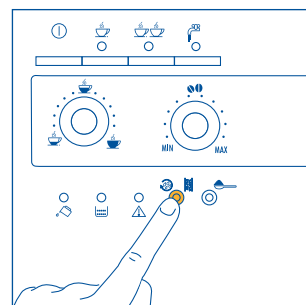

Fig. 14
1) If, when the machine has just been turned on, a short cup of coffee is required (less than 2 oz), use the hot rinsing water to pre-heat the cups (see suggestion in section 4.3, point 5). If, on the other hand, more than 2-3 minutes have elapsed since the last coffee was made, before preparing **another coffee the infuser must be pre-heated, pressing the ☕☕ button** (Fig. 14).
- press and hold the ☼ button for at least 5 seconds (Fig.14). The decalcification warning light will illuminate (section 11 - point 8) to indicate the start of the descaling program (the ☕ and ☕☕ lights remain off to indicate that it is not possible to make coffee).